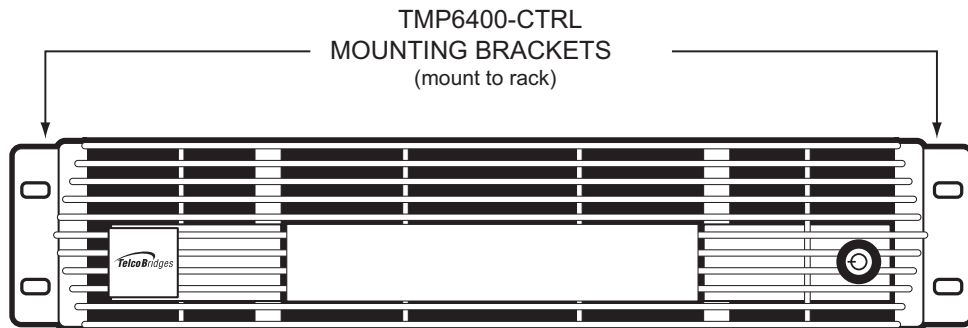
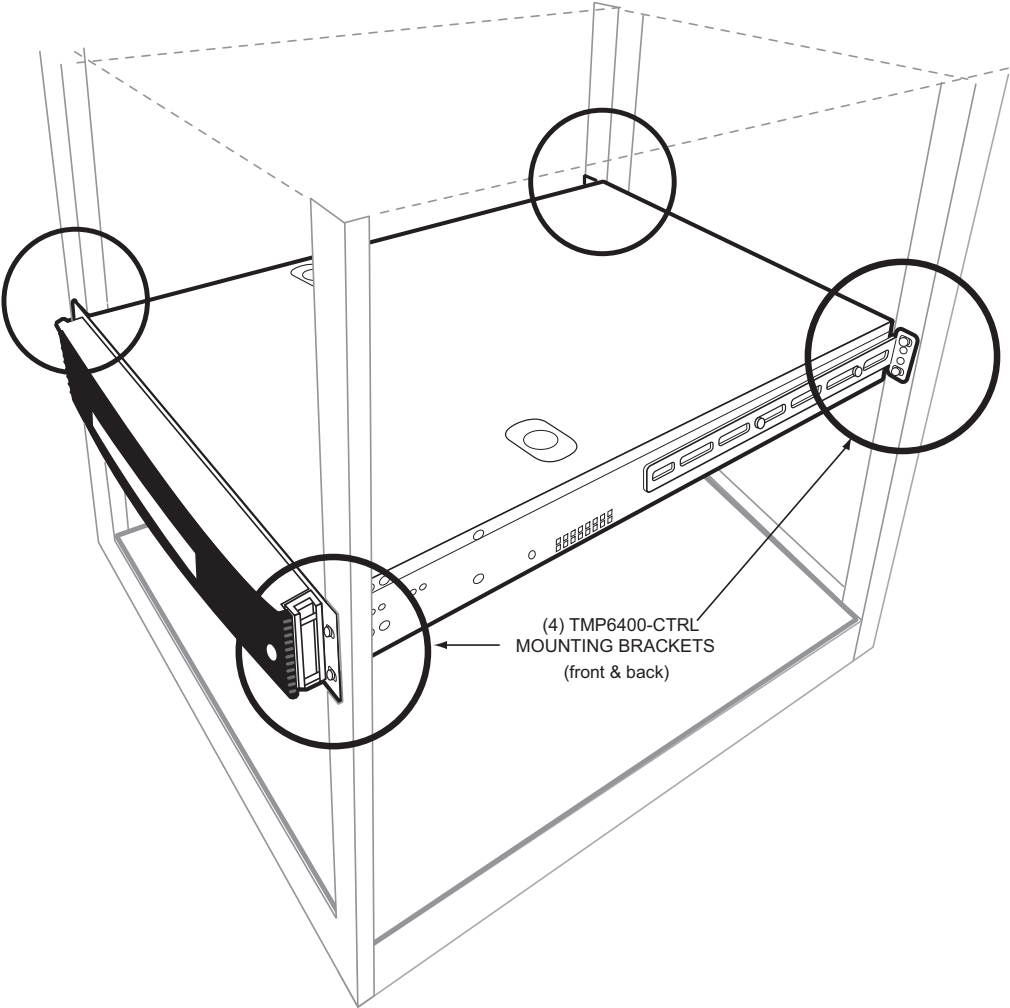

Figure 2.8 Front View of TMP6400-CTRL with Front Mounting Brackets
Figure 2.9 TMP6400-CTRL Installed in the Equipment Rack
3. Secure it in place using the screws provided with the bracket. See figure 2.8 on page 16 and figure 2.9 on page 17.